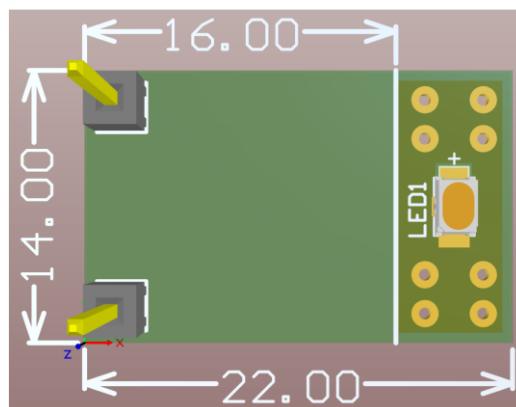

Figure 1 - geometrical requirements for the PCB (dimensions in millimeters)
2.1. **PCB dimensions:** 22 mm × 14 mm (see Figure 1 below)
2.2.1. create a *copper pour* on the top surface surrounding the LED (Figure 1, the yellow-green surface around the LED)
2.5. **connector location:** the two single-pole pin header connectors must be placed along the shorter PCB edge (see Figure 1)